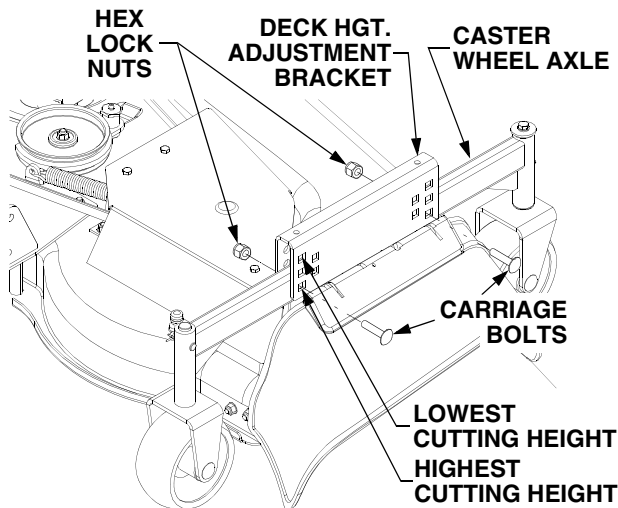

Figure 56
Refer to Figure 56 and adjust the deck cutting height as follows:
- Working from either the *left* or *right* hand side of the deck, support the caster wheel axle and remove the two carriage bolts and hex lock nuts. See Figure 56.
- Align the caster wheel axle with two corresponding lower index holes to raise the cutting height, or corresponding upper holes to lower the cutting height. See Figure 56.
- Check that the deck is in the lower cutting height position. If it is not, raise the deck, remove the hex lock nuts and carriage bolts, and reposition the caster wheel axles in the lower cutting height position (Refer to Figure 56). Lower the deck to the ground and stop the engine.